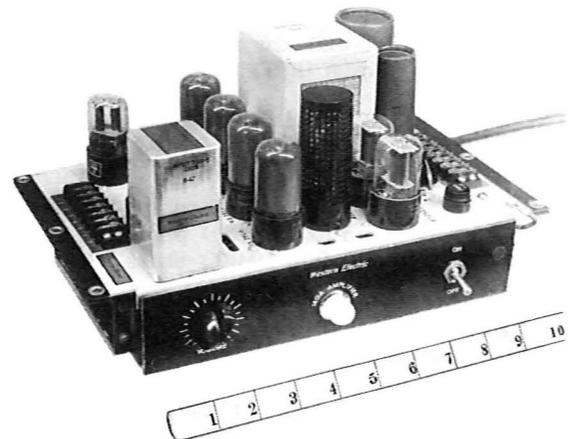

Fig. 1—140 Amplifier
1.07 The 140-type amplifier may be mounted in a KS-13678 cabinet or in a 19-inch relay rack. When rack mounted, a 205B mounting plate and a 405C panel must be supplied. The amplifier is 12-1/2 inches long, 7 inches deep and 6 inches high. The cabinet is 12-3/4 inches long, 8-1/2 inches deep and 9 inches high. The amplifier is shown in Fig. 1.